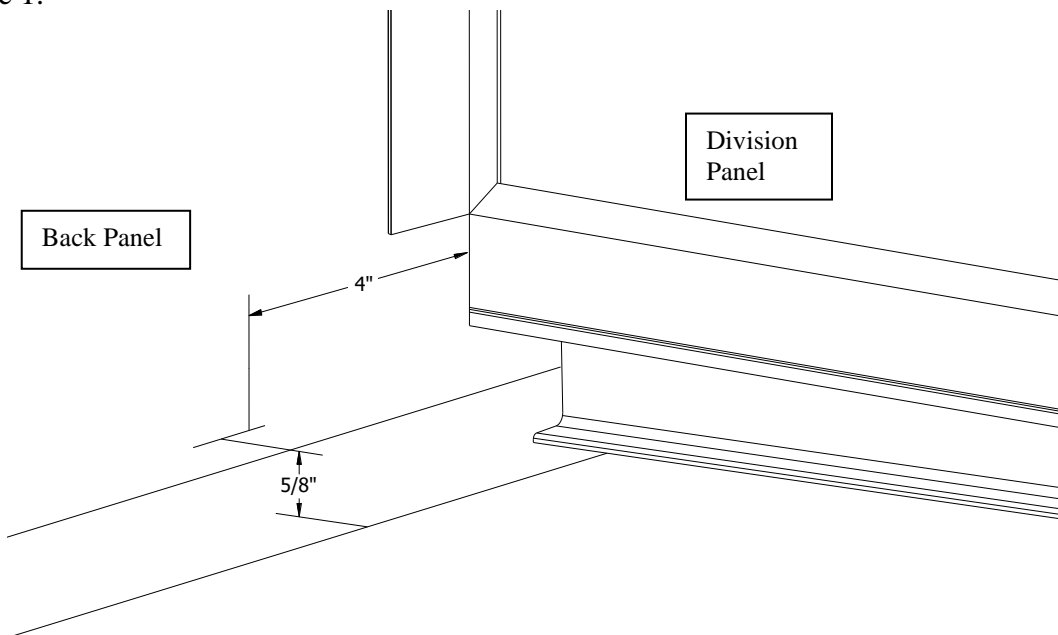

Figure 1.
1. Beginning from point on the back panel that is level with the front edge of the floor trench drain, measure up $5/8$ " and make a mark on the wall. From the side of the division panel measure in approx. 4" and make another mark. Repeat for the opposite side of the run. See Figure 1.